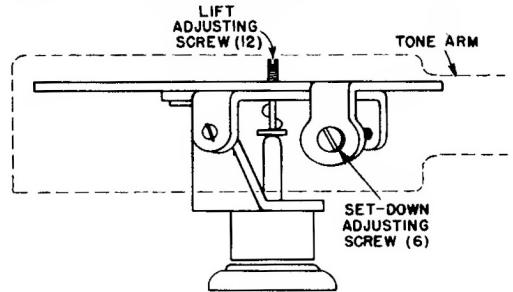

Figure 7. Set-Down and Lift Adjustments.
The set-down adjustment may be made while the changer is in its compartment or cabinet. Adjustment of the set-down point is made by adjusting the set-down adjusting screw (6). See Figure 7. **The tone arm will automatically set-down properly on 7-inch or 12-inch records if the set-down adjustment is made properly on a 10-inch record.** The set-down adjusting screw is accessible through the hole in the left side of the tone arm. Turning this screw out (counterclockwise) moves the set-down point of the tone arm closer to the centerpost, and turning this screw in (clockwise) moves it away from the centerpost.
Be sure the record changer is level. The tone arm lift adjustment may be made while the changer is in its compartment or cabinet. The tone arm lift adjusting screw (12) is accessible through a hole on the top of the tone arm at the tone arm base. See figure 7. If the tone arm lift is too great, that is, the tone arm touches the record at the bottom of the stack on the shelf of the centerpost, turn the lift adjusting screw counterclockwise. If the tone arm lift is not great enough to pass above a stack of 12 standard 10", 78 RPM records on the turntable, turn the lift adjusting screw clockwise.